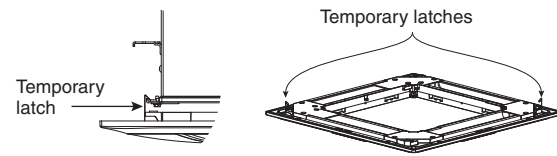

Fig. 3-44
- (1) Hang the temporary latches on the inside of the ceiling panel to the receptacle on the unit to temporarily attach the ceiling panel in place. (Fig. 3-44)